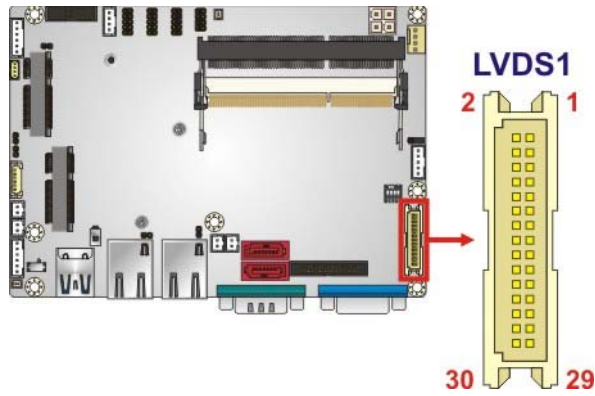

Figure 3-16: LVDS Connector Location
- CN Location:** See **Figure 3-16**